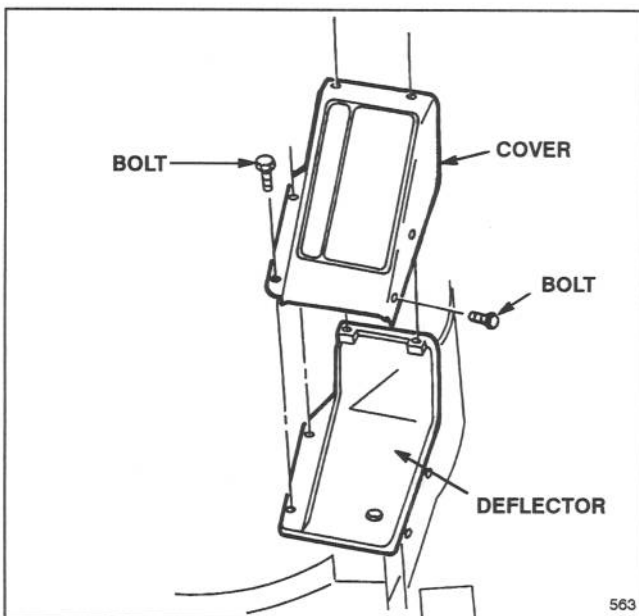

Figure 1
2. Remove and save the (7) bolts securing the Recycler® mower cover-deflector assembly to the deck (Fig. 1). Save the assembly for possible future reinstallation.